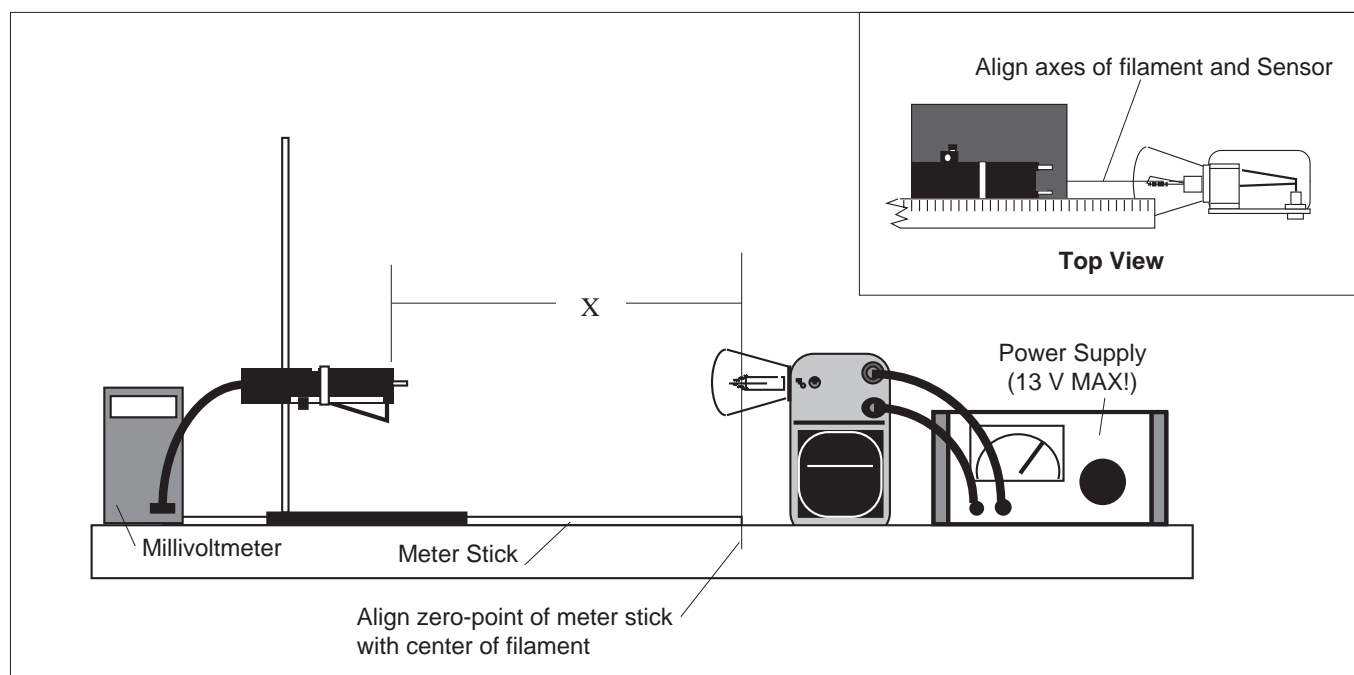

Figure 2.1 Equipment Setup
- ① Set up the equipment as shown in Figure 2.1.
- ② With the lamp OFF, slide the sensor along the meter stick. Record the reading of the millivolt-meter at 10 cm intervals. Record your values in Table 2.1 on the following page. Average these values to determine the ambient level of thermal radiation. You will need to subtract this average ambient value from your measurements with the lamp on, in order to determine the contribution from the lamp alone.
- ③ Turn on the power supply to illuminate the lamp. Set the voltage to approximately 10 V.
- ④ Adjust the distance between the Sensor and the lamp to each of the settings listed in Table 2.2. At each setting, record the reading on the millivoltmeter.